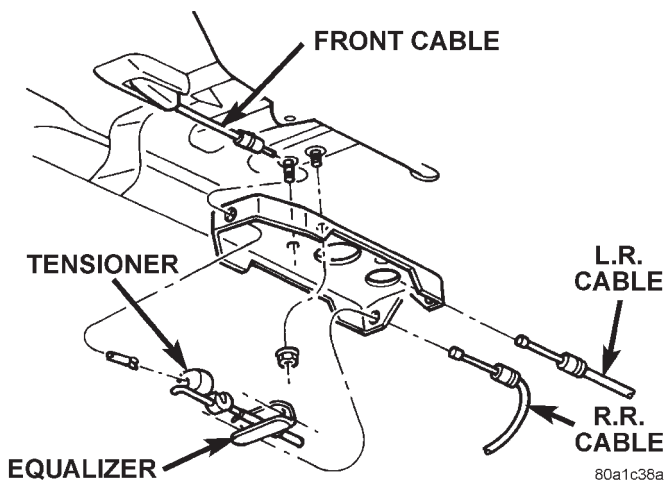

Fig. 35 Parking Brake Cable Attachment
- (1) Release parking brakes.
- (2) Raise vehicle on hoist.
- (3) Remove front cable adjusting nut and disengage cable tensioner from equalizer. Then remove front cable from tensioner (Fig. 35).
- (4) Lower vehicle.
- (1) Raise vehicle and loosen equalizer nuts until rear cables are slack.
- (2) Disengage cable from equalizer and remove cable (Fig. 35).